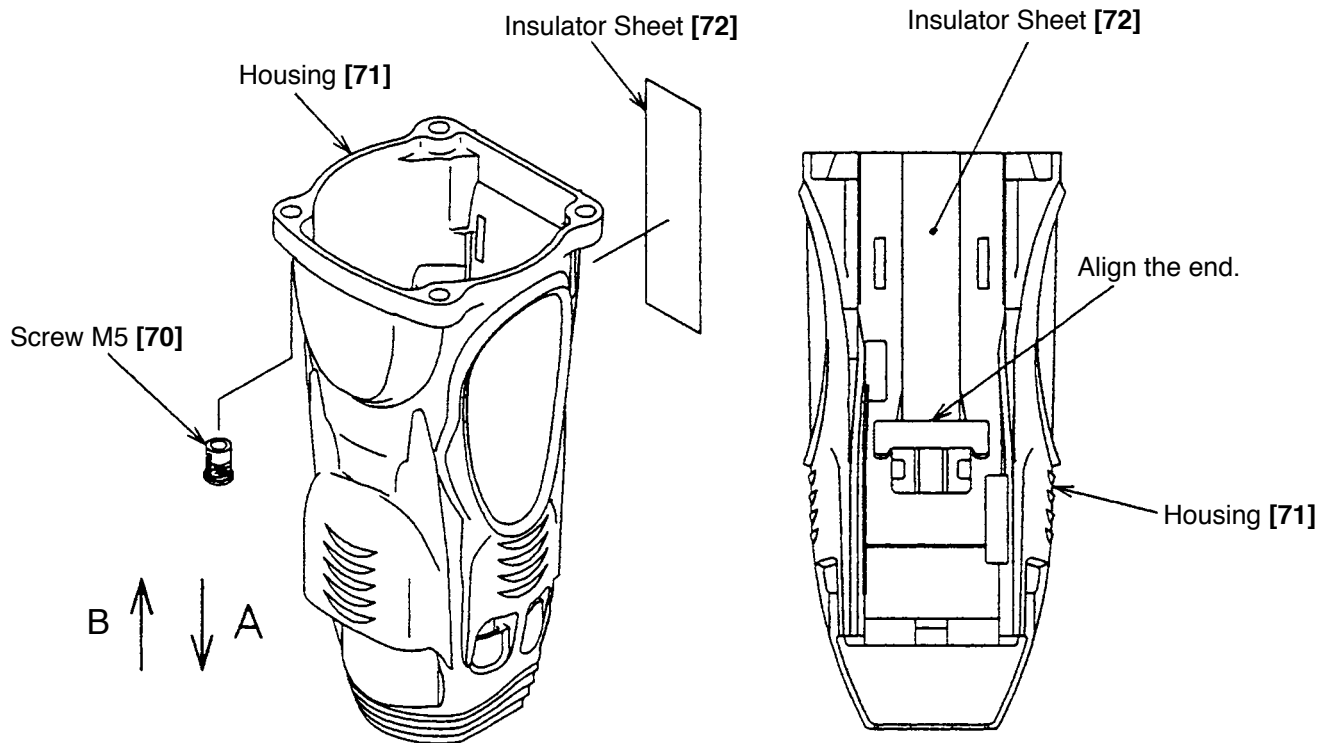

Fig. 49
(4) Disassembly and reassembly of Housing Ass'y [74] (Fig. 49)
- Push out the Screw M5 [70] in "A" direction as shown in Fig. 49 with a hand press.
- Push in the Screw M5 [70] in "B" direction as shown in Fig. 49 with a hand press.
- Degrease the adhering surface on the Housing [71] then adhere the Insulator Sheet [72] to the designated position (Fig. 49).